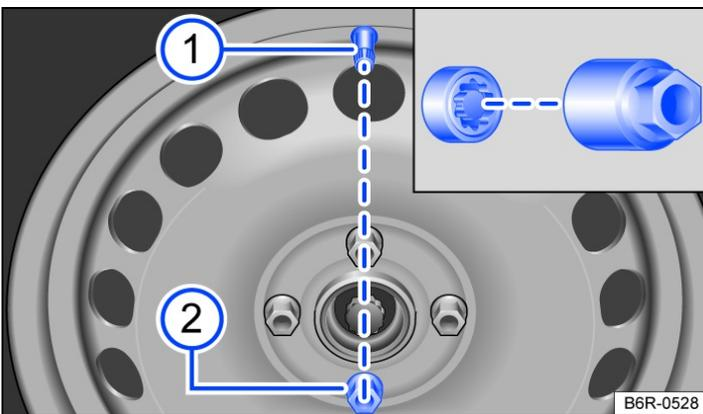

Fig. 2 Changing a wheel: tyre valve (1) and location of the anti-theft wheel bolt (2).
The anti-theft wheel bolt must be screwed in at position → Fig. 2 (2) on wheels with a wheel cover. The wheel cover can otherwise not be fitted.